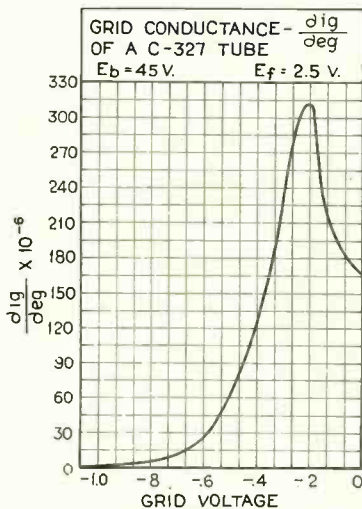

FIG. 2
Fig. 2 shows the value of grid conductance plotted against grid voltage over the useful range of grid voltages. The grid conductance was calculated by dividing $\frac{\delta i_g}{\delta e_g}$ by Δe_g found from Fig. 1. This method is explained in a previous article by the author⁴ or any good radio text book dealing with tube characteristics.
a large value of r_g . The value of $\frac{\delta k_g}{\delta e_g}$ may be found from the k_g - e_g curve of Fig. 2 by taking small triangles Δk_g and Δe_g and dividing Δk_g by Δe_g .
1. For example, the value of R_1 to pass through -0.7 volt and zero may be found as follows: from Fig. 1 i_g is three microamperes and from Ohm's Law R_1 is 0.7 divided by 3×10^{-6} or 233,000 ohms. The value of k_g at this voltage is found from Fig. 2 to be 26×10^{-6} mhos. The value of $\delta k_g / \delta e_g$ was calculated from Fig. 2 as explained previously. The value of g_m was found from the I_b - E_g curve with constant plate voltage, as explained for finding k_g . The value of ΔI_b is divided by Δe_g at the different voltages. The value of g_m is shown plotted in Fig. 5.